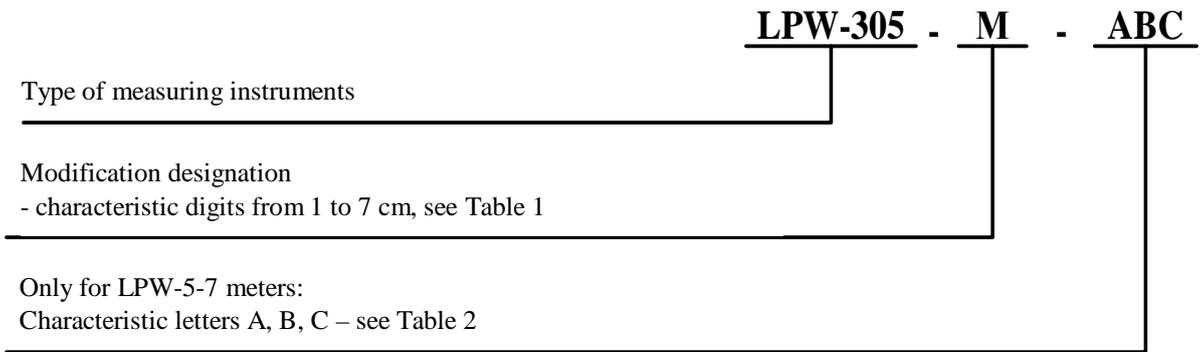

Figure 1 – Designation of LPW-305 modifications
1.2 LPW-305 modifications are shown in Figure 1, design and functional features as well as the range of measured PQI for each modification are presented in Tables 1, 2.
Design feature	Characteristic digit in designation of a LPW-305 modification as shown in Figure 1